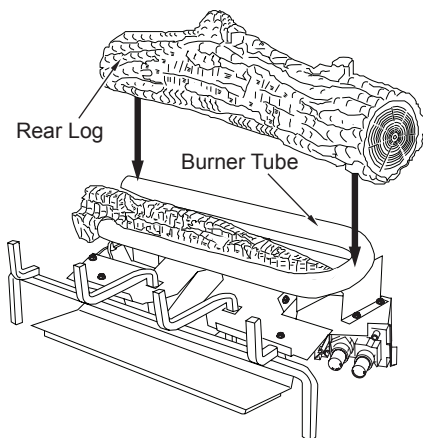

Figure 35 - Installing Rear Log
2. Place the rear log on the base assembly as shown in Figure 35. The rear log has grooves in the bottom which will allow the log to sit on the burner and behind the bottom ember log.